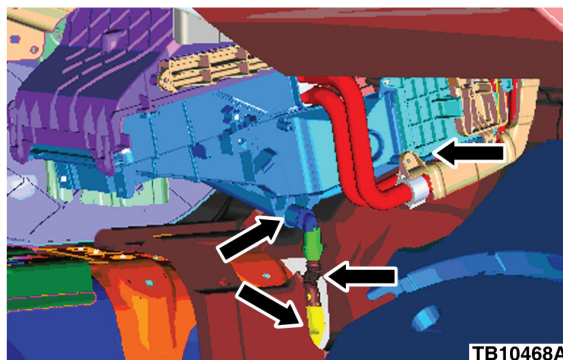

Figure 1 - Article 13-12-6
6. Remove the five (5) T20 Torx screws to evaporator core access cover. (Figure 1)